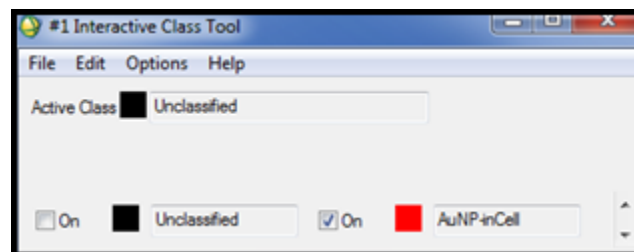

Figure 5.7b. Activating the overlay feature
- Click on the tab beside the red box marked AuNP in cell (Figure 5.7b).